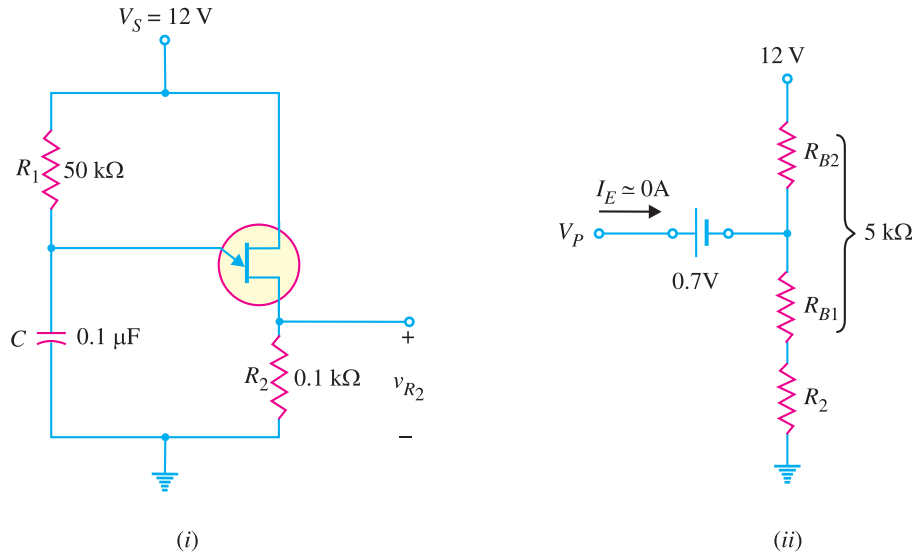

Fig. 21.33
**Example 21.12.** Fig. 21.33 (i) shows the relaxation oscillator. The parameters of the UJT are  $R_{BB} = 5\text{ k}\Omega$  and  $\eta = 0.6$ .
(ii) The voltage  $V_P$  required to turn on the UJT can be found from the UJT circuit model shown in Fig. 21.33 (ii). Referring to Fig. 21.33 (ii), we have,